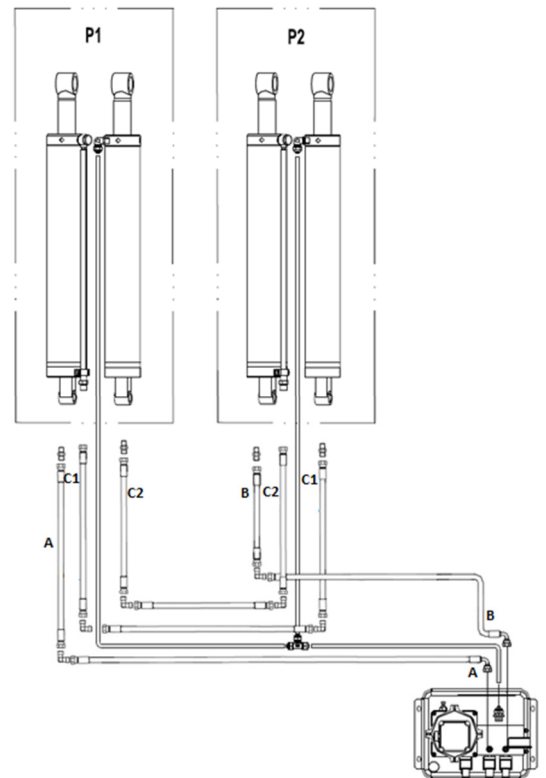

Fig. 4
2. Connect the hoses, take notice to the letters on the hoses, this is self-explanatory. Refer to the hydraulic schedule (fig.4). **CAUTION! All hoses must be free of dirt and dust, if this is not the case, this might cause the hydraulic system to fail, this might cause serious damage to materials/properties and/or serious injuries.**